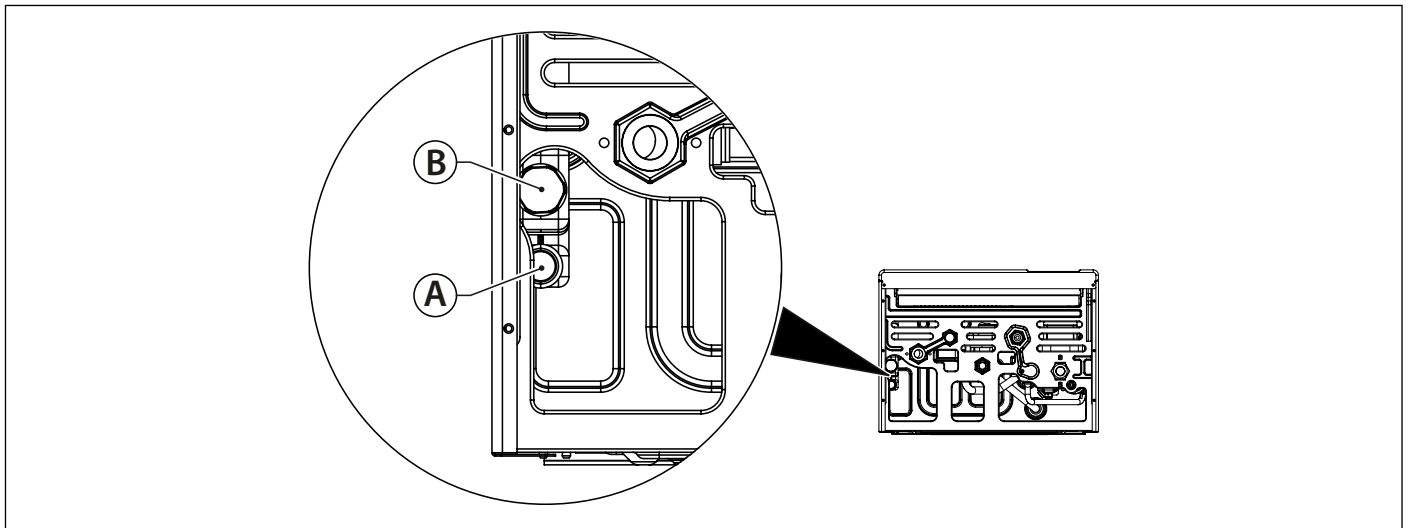

Fig. 23 Condensate drain
Condensate drain system must be connected to specific fitting (A) in the boiler (see Fig. 23 Condensate drain).